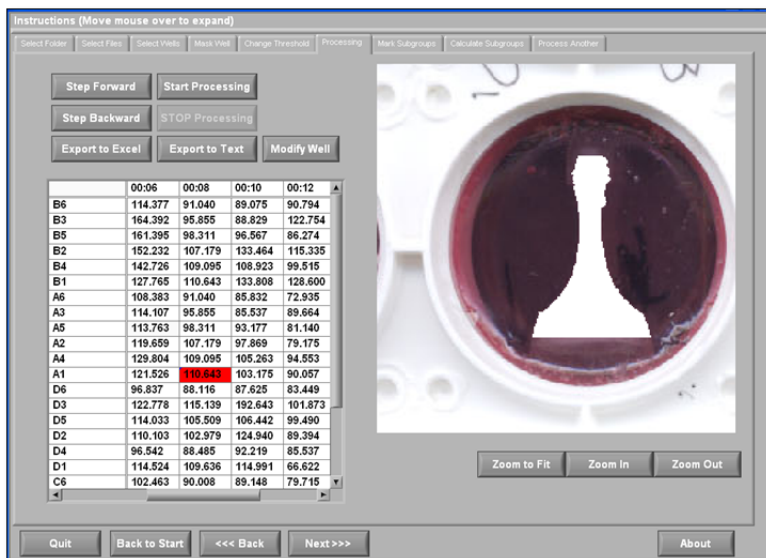

Figure 27. Processing the image series
- 1) The user may double-click on the well name in the left column of the window to view the image of the chosen well with the previously selected threshold pixilated. Select *START PROCESSING* to begin processing the image series (**Figure 27**). At any point during the processing, the user may stop the analysis by selecting *STOP PROCESSING*. The upper cell in the 00:00 column will highlight red when processing is complete. After processing is complete (**Figure 27**), the user has several options for post-processing (see Section 7).
Individual images in the processed results may require more consideration if the pixilation does not possess the desired effect. For instance, there may be pixels pixilated white which are outside of the object being analyzed, but inside of the ROI. In this case, highlight the cell respective to the well image and select *MODIFY WELL* (**Figure 27**).